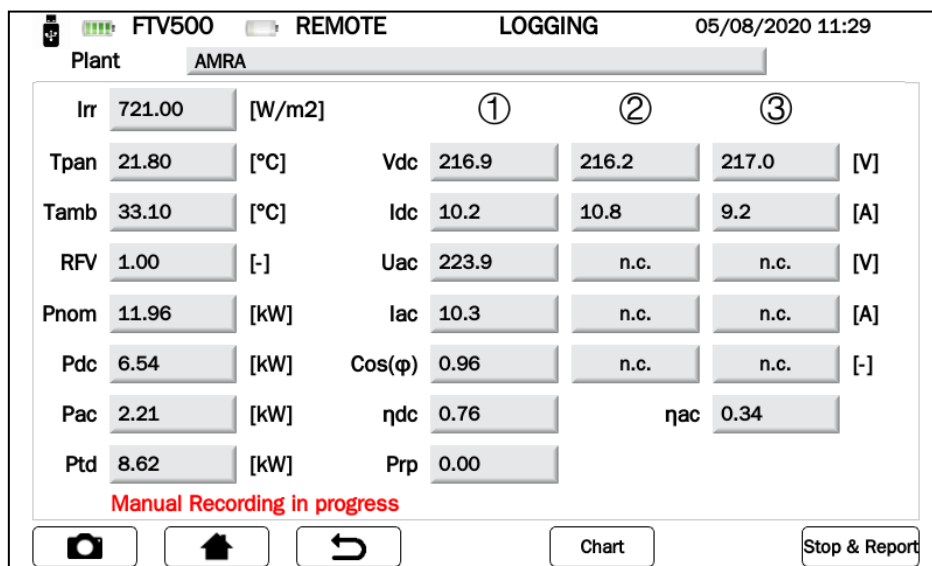

Figure 14.7.2-14 Manual recording in progress
- To end the recording, press the button. The recording will be stopped and saved in the memory (see Figures 14.7.2-14).